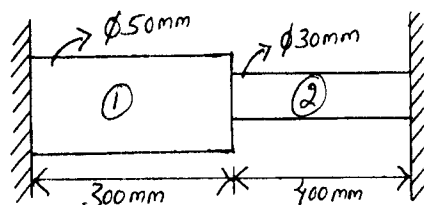

Fig Q4(a)
- a. Determine the nodal displacements, elemental stresses and support reactions for the Fig Q4(a). Use elimination approach to handle the Boundary conditions. (10 Marks)